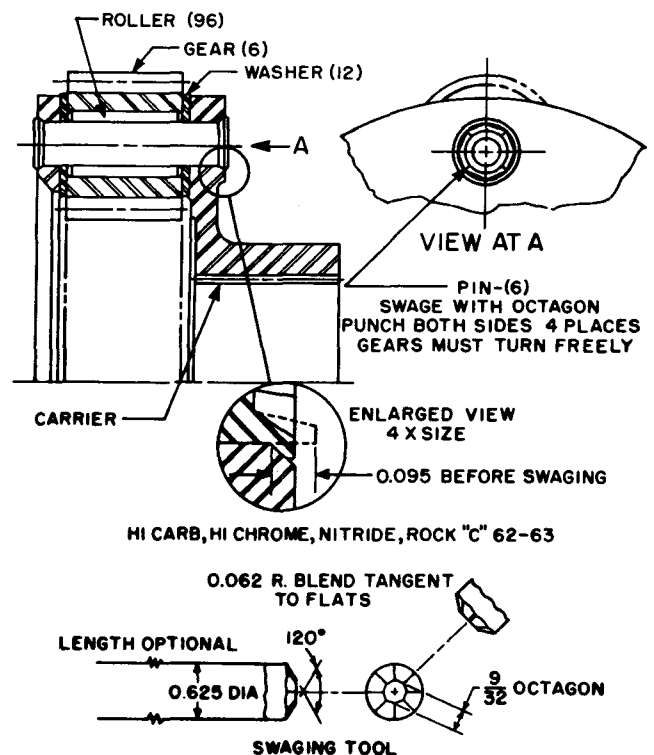

Fig. 6-23. Low-range planetary carrier assembly—cross section
a. Disassembly (B, foldout 11, and fig. 6-23)
(1) Position carrier assembly 8 (B, foldout 11), flat side down, on a drill press table.
(2) Using a 1/2-inch twist drill, centered accurately, drill the end of each pinion pin 12 to weaken the staking.
(8) Repeat procedures (3) through (7), above, for the remaining pinion groups. Align the pinion groups in the carrier by inserting the alining tool into each spindle bore.
(9) Press new spindles through the carrier and pinions until they project 0.095 inch from the inner ends of the countersinks at the rear (webbed side) of the carrier (see inset detail of fig. 6-23).
(10) Stake both ends of the spindles into the countersinks of the carrier. Refer to fig. 6-23 for details of fabricating the staking punch.
(11) Install seal 15 (and expander 18 on later models) onto piston 16. Refer to paragraph 6-16c(12) through (14), above, for piston seal and expander installation.